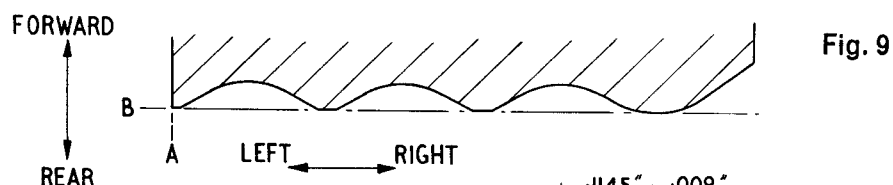

Fig. 9
1. Set the diamond point to the centre-line of the graticule. Set the left hand angle setting stop to  $90^\circ$  and the right hand angle setting stop to  $0^\circ$ . With the radius arm against the  $0^\circ$  stop and locked in position with the angle locking knob move the cross-slide sufficiently to bring the left hand edge of the wheel approximately 0.250 inches to the left of the centre line of the graticule, so that the 1 inch movement of the tangent slide can be used to dress the full width of the wheel. Bring the diamond into contact with the wheel using the depth control slide, and dress the periphery (B Fig. 9) using the tangent slide. With the diamond in this position set the depth control slide to zero by loosening the locking ring and positioning the micrometer ring at zero and re-tightening. This establishes the depth datum line.
2. Move the cross-slide to bring the left hand side face of the wheel onto the centre line of the graticule and set the radius arm onto the  $90^\circ$  angle setting stop, locked in position using the angle locking knob. Bring the diamond into contact with the wheel and lightly dress the left hand side face (A Fig. 9) by raising the left hand centralizing stop and using the tangent slide. With the diamond in this position set the cross slide to zero by loosening the locknut, setting the micrometer slide to zero and re-tightening. The datums for A and B have now both been fixed.